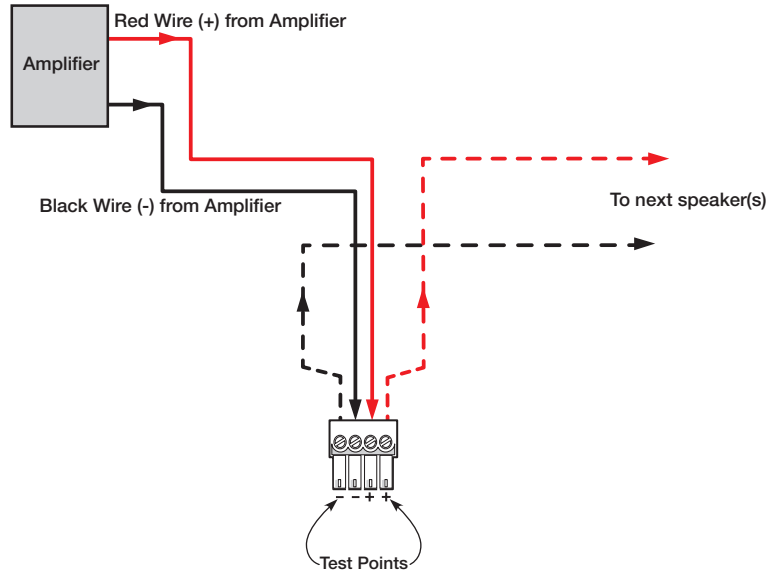

Figure 17. Impedance Test Points — Loop-through Configuration
- The impedance of the speakers downstream of the one being tested can be measured while the system is on by connecting to the outer (LOOP) terminals of the captive screw connector, as shown in figure 17.